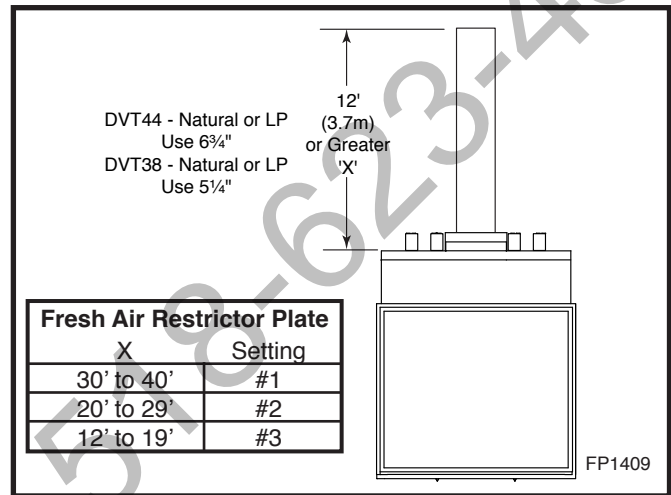
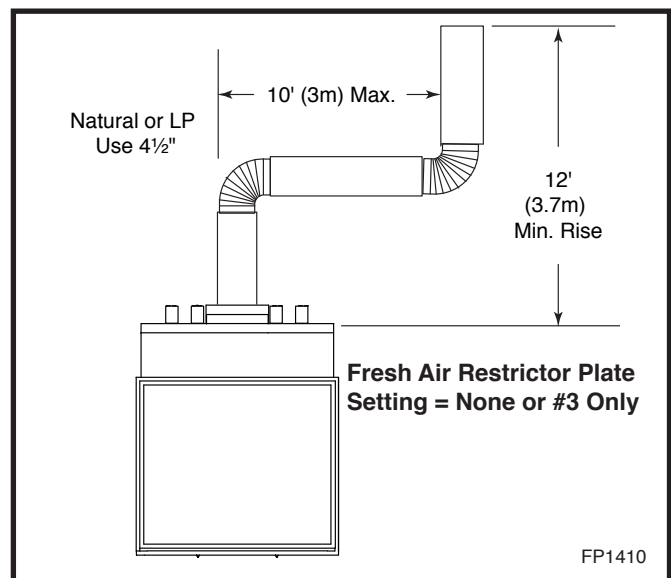
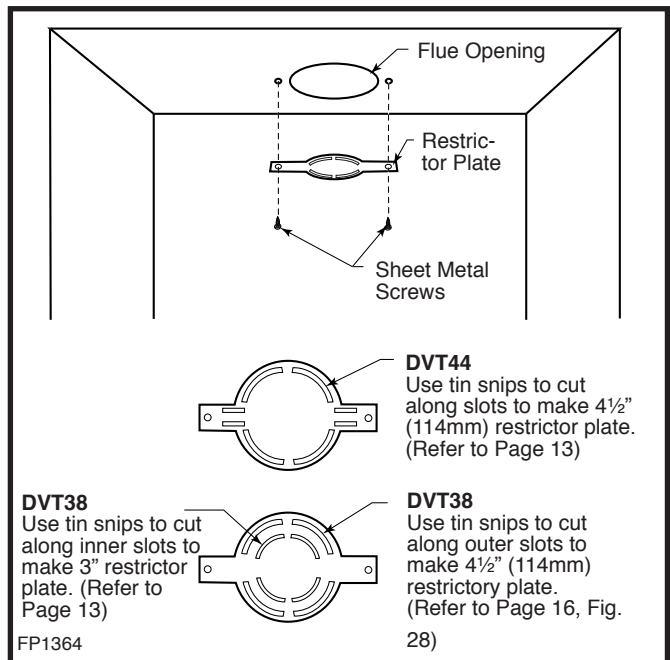

Fig. 27 Restrictor plate use in straight up installation.
Fig. 28 Restrictor plate use with horizontal offset.
Fig. 36 Restrictor plate location.
For vertically venting either propane or natural gas units, with vertical vent heights of 12' (3.7m) or greater, (measured from the top of the flue collar) the restrictor plate as supplied with this unit should be used. (Fig. 27) Also, the fresh air restrictor plate could be adjusted according to your vent height. (Fig. 27) Refer to Pages 20 & 21, Figures 36 & 38 for restrictor plate installation and fresh air restrictor plate adjustment.
For vertical venting configurations that include a minimum vertical rise of 12' (3.7m) and a maximum horizontal offset of 10' (3m) the 4 1/2" restrictor plate supplied with this unit should be used. The fresh air restrictor plate could be adjusted to the setting #3 (DVT44 Only). (Fig. 28) Refer to Pages 20 & 21, Figures 36 & 38 for restrictor plate installation and fresh air restrictor plate adjustment.
Using the two (2) screws provided along with the restrictor plate shipped with the logset, fasten the restrictor plate to the firebox top through the front of the unit. (Fig. 36)